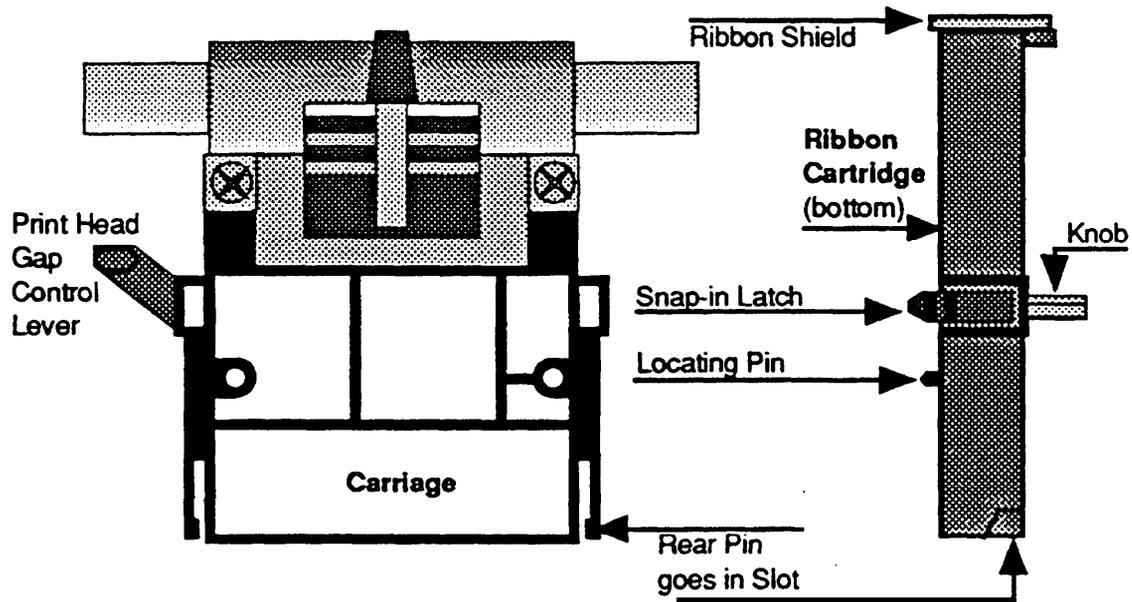

Figure 2-8. Inserting the Ribbon Cartridge
2. Verify that the switches are set as shown in Figure 2-8. If necessary, change the switches to correspond to the settings shown in Figure 2-8. Refer to Appendix C for switch meanings.